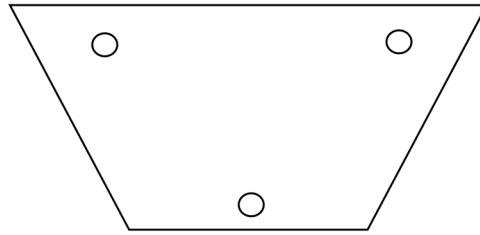

Figure 1
- 7 A company needs to manufacture a one-off replacement part for an inspection cover. This cover is part of the hull for a speedboat. It will be attached to the hull using bolts. The part design is shown in Figure 1. The maximum dimensions of the part are 300 mm x 200 mm, with a thickness of 6 mm. This will be made as a one-off using a material chosen by the company.